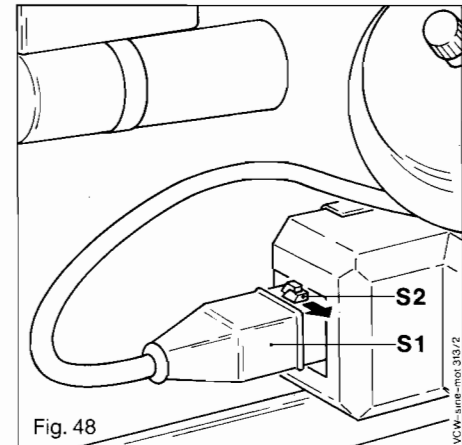

Fig. 48
14.6.1 Electrical isolation (Fig. 48)